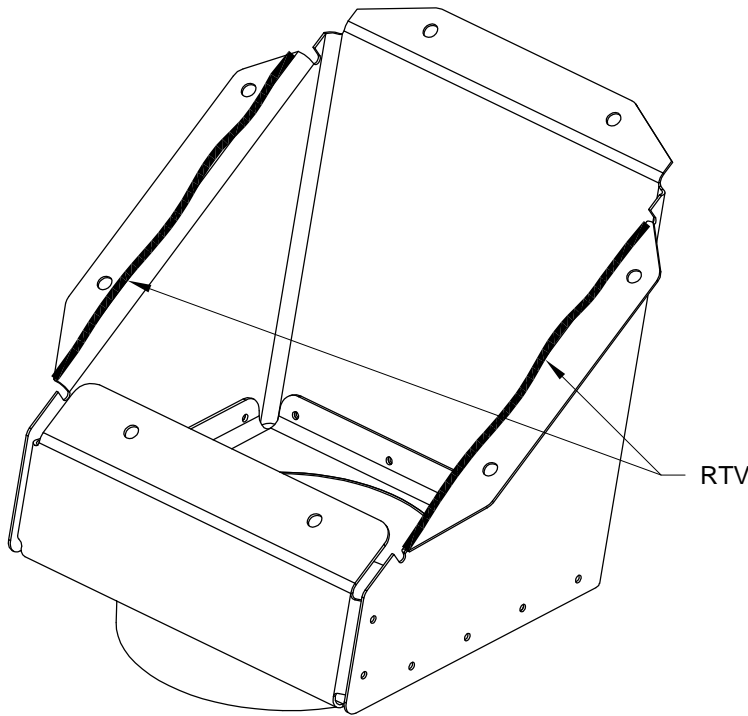
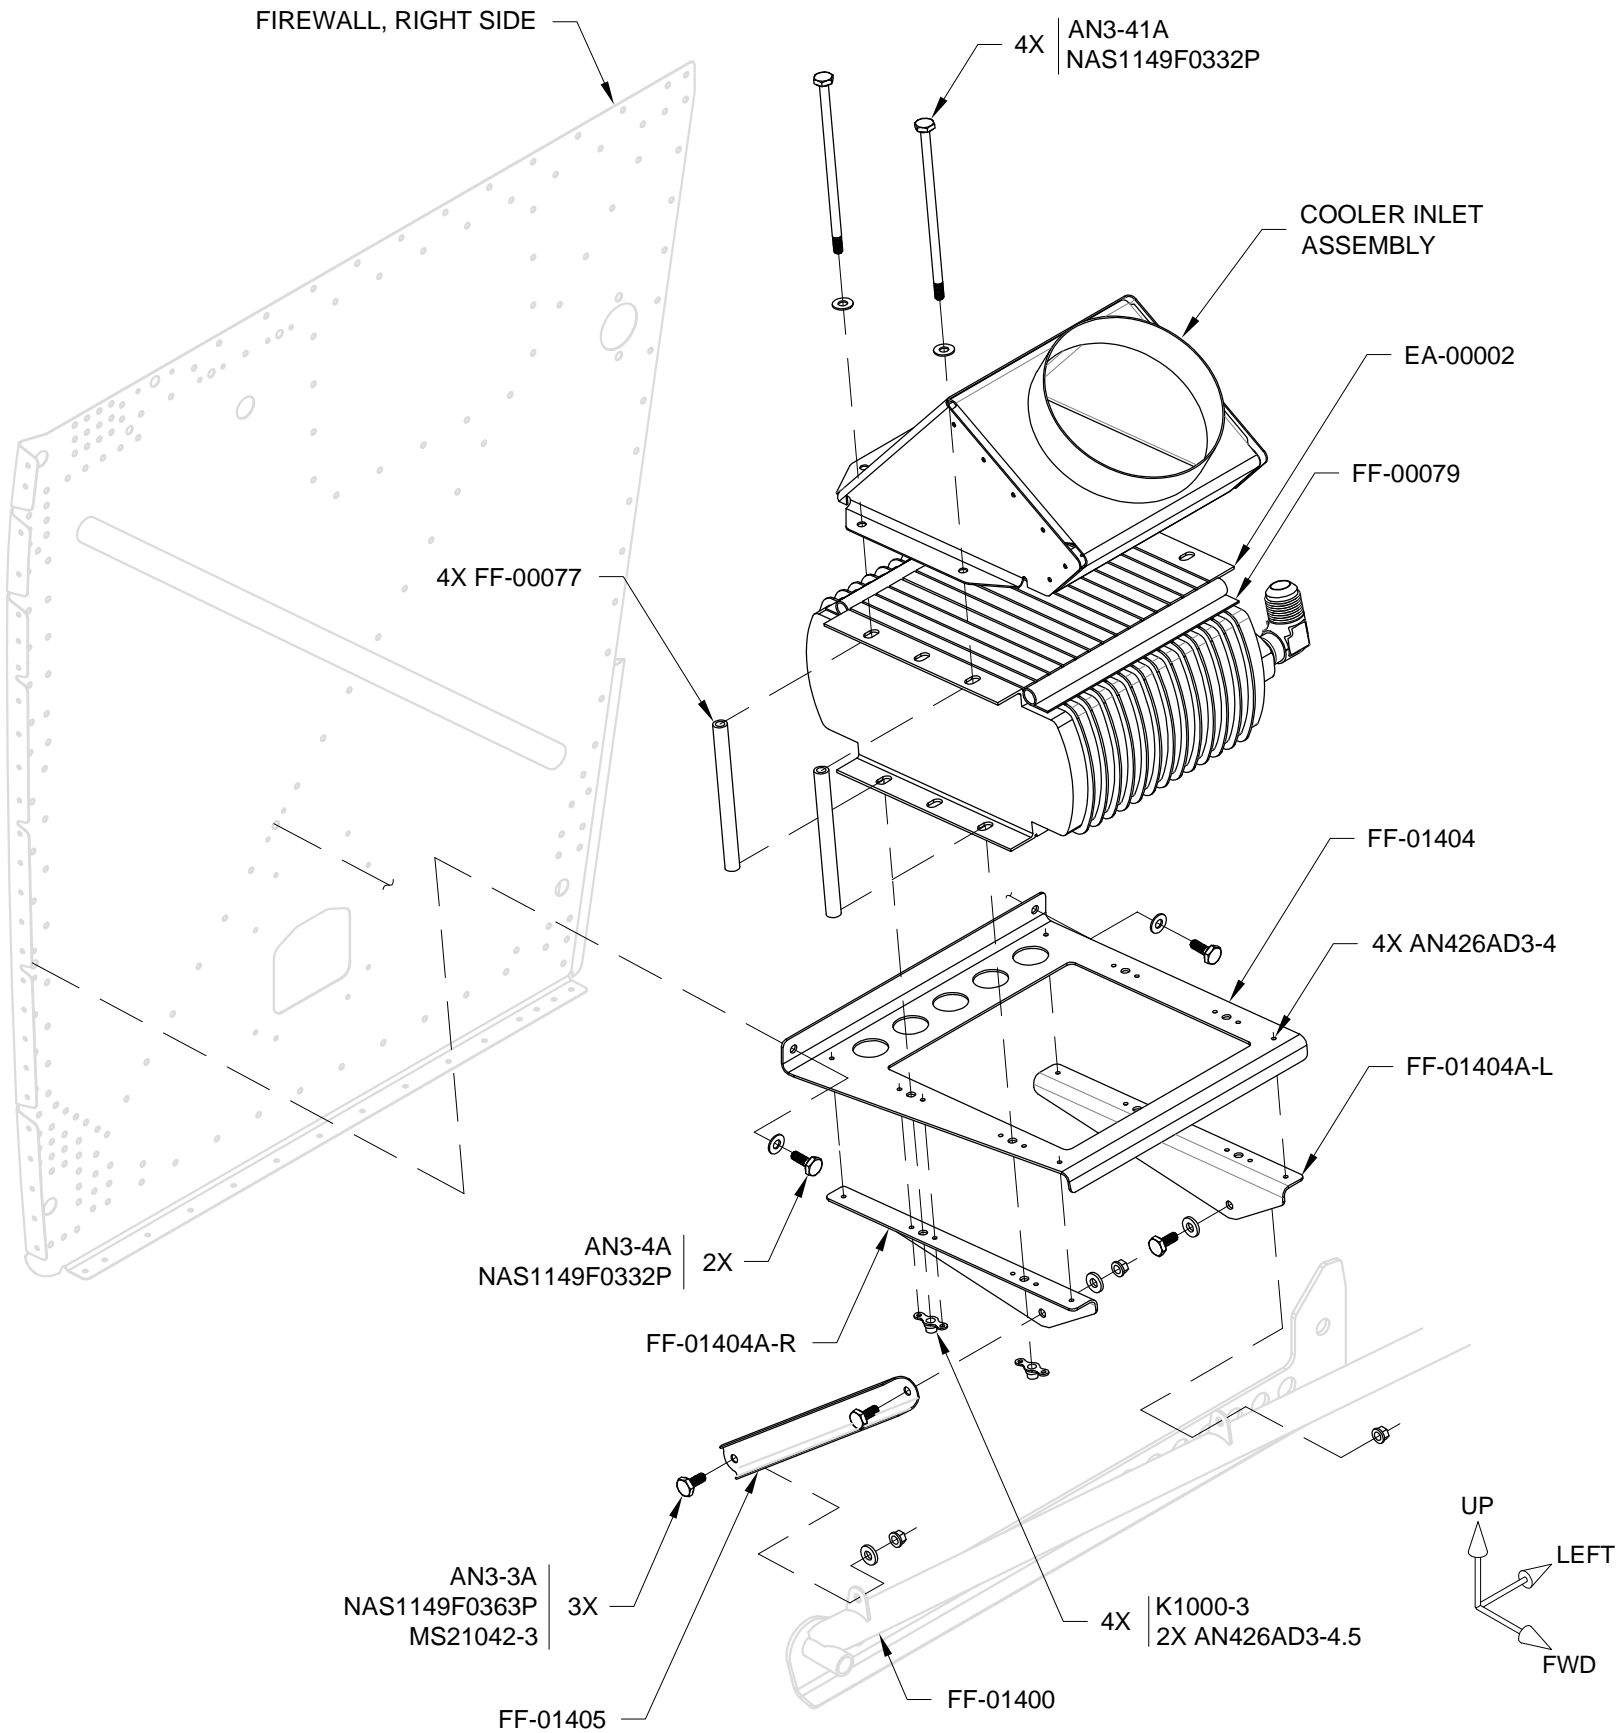

FIGURE 1: COOLER INLET ASSEMBLY
FIGURE 2: OIL COOLER & INLET INSTALLATION
Step 4: Apply two beads of RTV to the base of the Cooler Inlet Assembly where it will contact the oil cooler's mounting plate as shown in Figure 1. Allow about 5 min for the RTV to skin over, then place it atop the oil cooler as shown in Figure 2.